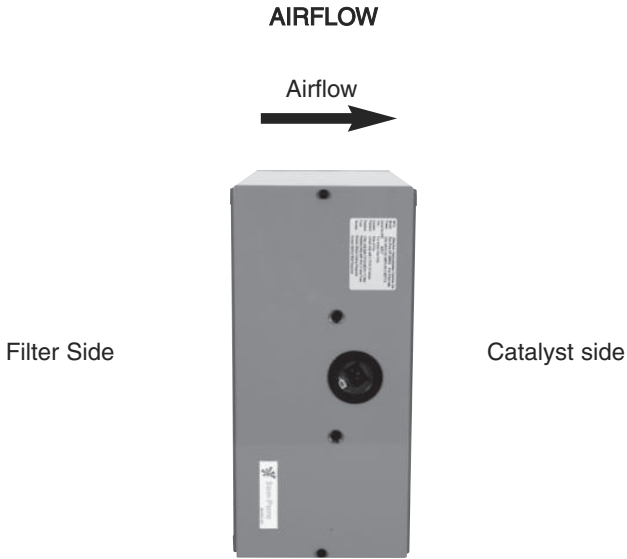

Fig. 1
3. Ensure the unit is positioned so that the inlet, or return, air enters the side containing the MERV-11 electrostatic filter. (Fig. 1)